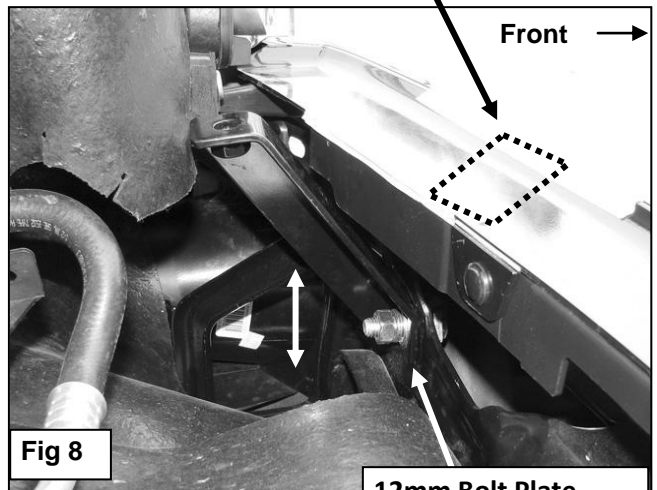

Fig 8
2. Open the front hood on the vehicle. Locate the top of the bumper bracket behind the driver side of the front bumper. Locate the open hole in the top outer end of the bumper bracket, **(Figure 6)**. Insert (1) 12mm x 35mm Bolt Plate down and into the gap at the top of the bracket and out through the hole with the threaded end of the Bolt Plate facing to the rear toward the radiator, **(Figures 7A & 7B)**. Slide the lower end of the driver side Top Support Bracket, (end with hole), over the Bolt Plate. Secure the Bracket to the Bolt Plate with (1) 12mm Flat Washer, (1) 12mm Lock Washer and (1) 12mm Hex Nut, **(Figure 8)**. **IMPORTANT:** Do not tighten hardware at this time.
**NOTE:** Before proceeding, cover the top of the plastic bumper, (driver and passenger sides), with removable tape, (masking tape for example), to protect the bumper during Top Bracket installation, **(Figure 8)**. Next, apply a section of the included Adhesive Backed Foam Tape to the bottom of both Top Brackets to prevent damage to the painted finish on the vehicle, **(Figure 10)**.
**NOTE:** It may be necessary to raise or lower the height of the Top Bracket to fit properly between the grille and the top of the bumper. Loosen the 12mm Hex Nut attaching the bottom of the Support Bracket to the Bolt Plate, **(Figure 8)**. Move the Top Bracket up or down as needed to clear the top of the bumper and line up with the Grille Guard before tightening the hardware. Do not fully tighten Top Bracket hardware until after all hardware has been installed and the Grill Guard properly aligned and adjusted.
Loosen Hex Nut on Bolt Plate (Fig 8) and adjust height of Support Bracket (up or down) as necessary. Do not tighten Hex Nut until final adjustment step.
For easier installation, insert (1) 12mm Hex Bolt per side in the location pictured in Figure 8 to act as a hinge. Snug the hardware but do not tighten, then rotate the Grille Guard up into position